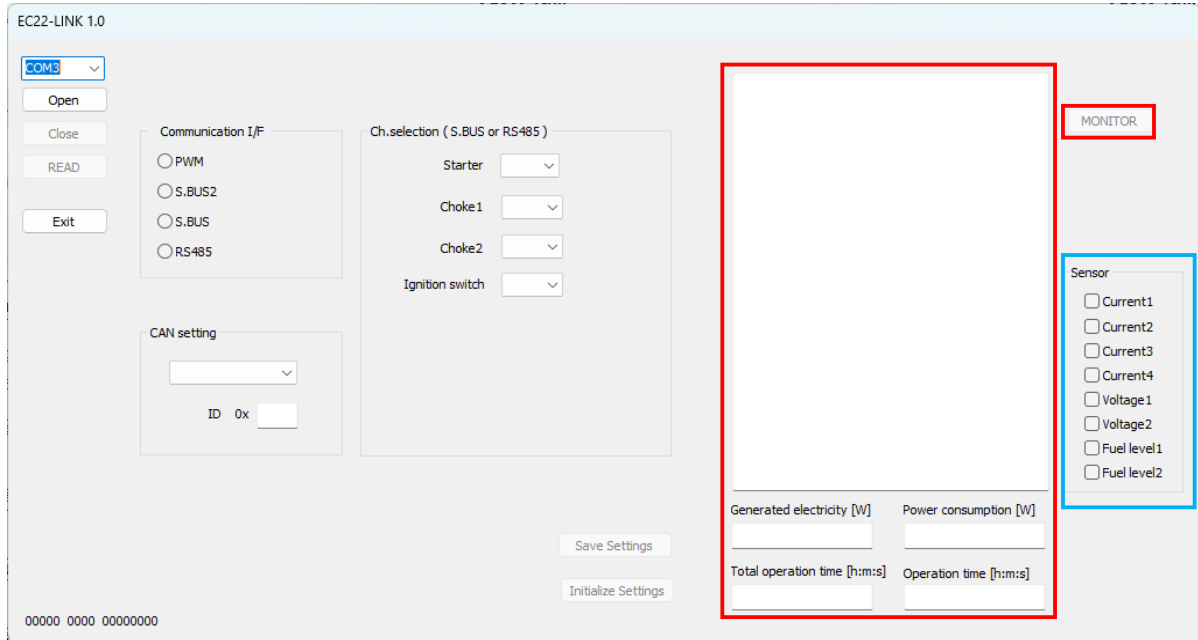

Fig.8.1
The measured value of the following articles (17)~(22) are shown on the display when the sensors are connected to the connection terminal on top of the ECU. (17)Current 1 , (18)Current 2 and (19)Current 3 have to be connected for power generation control. Everything else is optional. In Fig 8.1, in the blue box, by putting a check on check boxes, you can select an item, which can be shown on the display.
(17) Current1 (Battery charging) [A]